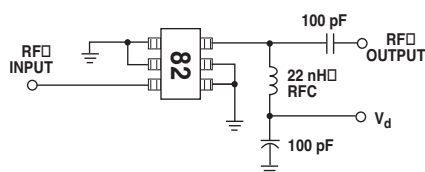
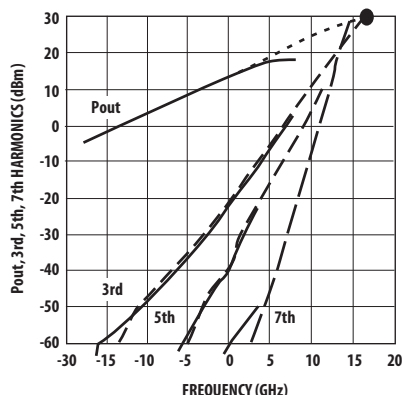
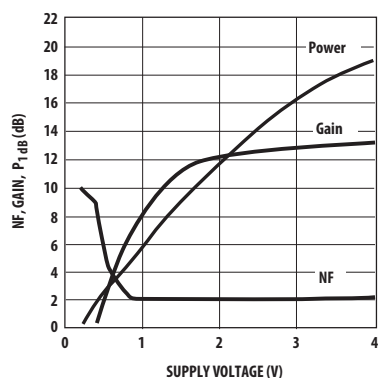

Figure 10. Test Circuit.
Figure 18. Intermodulation Products vs. Input Power. ($V_d = 3.0\text{ V}$)
Figure 19. Gain, Noise Figure, and Output Power vs. Supply Voltage.
1. Guaranteed specifications are 100% tested in the circuit in Figure 10 in the Applications Information section.
The circuit shown in Figure 10 is used for 100% RF testing of Gain and Noise Figure. The test circuit is merely a 50Ω input/output PC board with a RFC at the output to apply DC bias to the device under test. Tests in this circuit are used to guarantee the NF_{test} and G_{test} parameters shown in the table of Electrical Specifications.
Like other active devices, the intermodulation products of the MGA-82563 increase as the device is driven further into nonlinear operation. The 3rd, 5th, and 7th order intermodulation products of the MGA-82563 are shown in Figure 18 along with the fundamental response. This data was measured in the test circuit in Figure 10.
While the MGA-82563 is designed primarily for use in +3 volt applications, the internal bias regulation circuitry allows it to be operated with power supply voltages from +1.5 to +4 volts. Performance of Gain, Noise Figure, and Output Power over a wide range of bias voltage is shown in Figure 19. (This data was measured in the test circuit in Figure 10.) As can be seen, the gain and NF are fairly flat, but an increase in output power is possible by using higher voltages. The use of +4 volts increases the P_{1dB} by over 2 dBm.